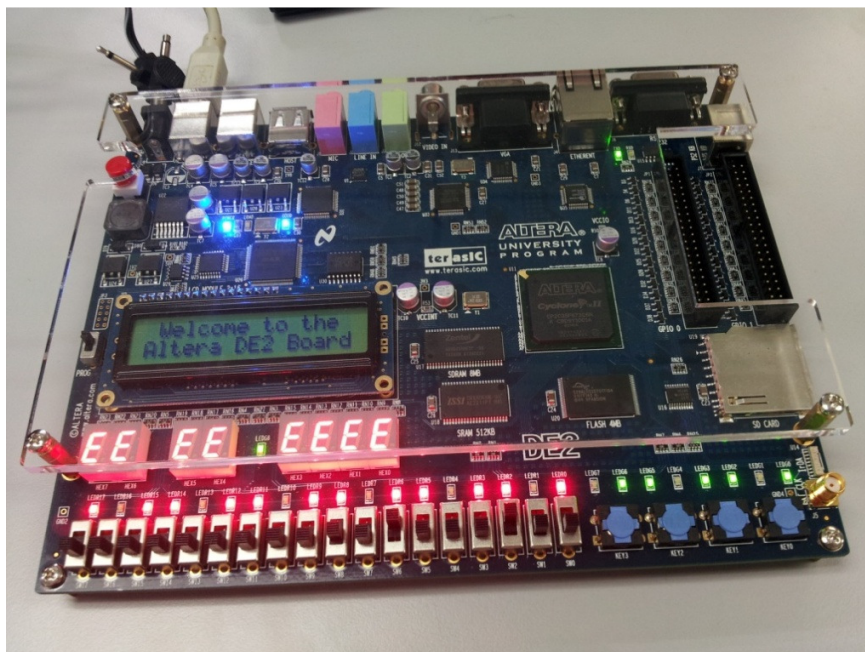

Fig. 1: Altera DE2 Development Board
In this tutorial, we will learn how to design a hardware block using schematic and download it onto an FPGA. We will be using the Quartus II software and the Altera DE2 Development Board as shown in Fig. 1.
13. Connect the Altera DE2 Development Kit to the computer using the USB Blaster cable and switch it on. Initially all the 7-segment displays and LEDs will light up as depicted in Fig. 1.